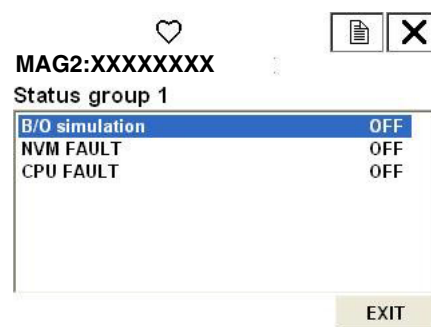

Figure 149.
2. There are 3 groups. Each group has different items to be verified. Figure 149 shows an example of "Status group 1".